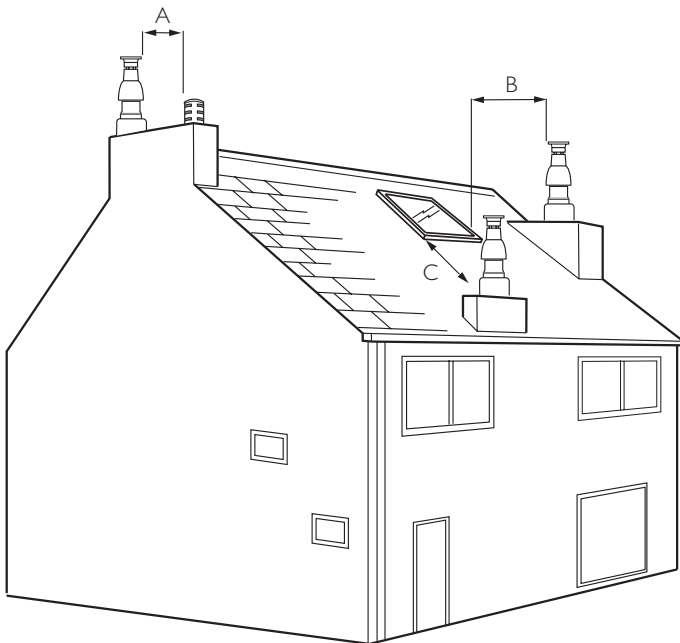

Fig. 10
6. It must also be a MINIMUM of 150mm from any other terminals or obstructions (A). When adjacent to windows or openings on pitched or flat roofs it must be at least 600mm away (B). A minimum dimension of 2000mm must be maintained when below windows or openings in pitched roofs (C) (Fig. 10).